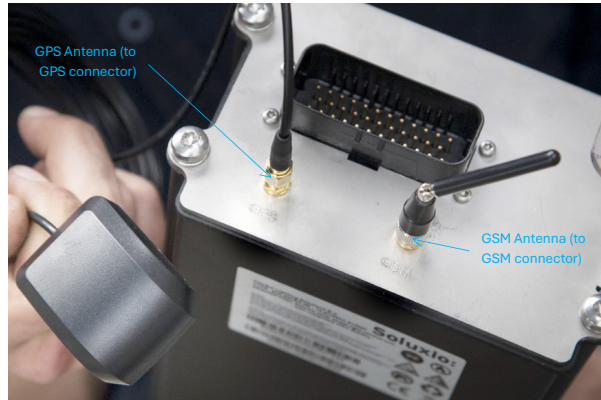

Fig. 13-1: GPS and GSM Antenna and Connections on Control Unit
1. Install the GPS and GSM antennas onto their respective connectors on the control unit (refer to Figure 13-1).